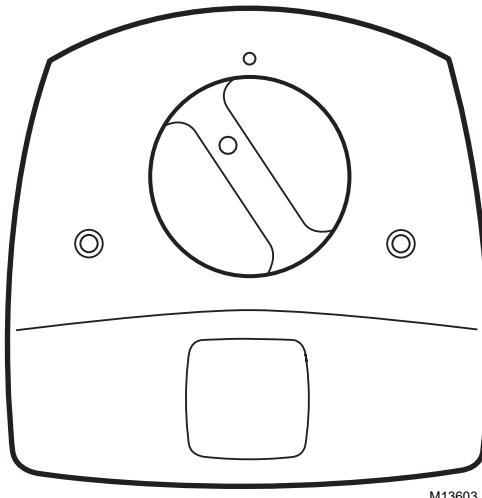

Fig. 16. Position bulb for insertion back into the lamp base.
- Insert the bulb into the base with the lamp light indicator at the eleven o'clock position. Continue pushing and gently rotating counterclockwise until the lamp handle inserts fully into the base. See Fig. 16.
- 8.** Insert the bulb into the base with the lamp light indicator at the eleven o'clock position. Continue pushing and gently rotating counterclockwise until the lamp handle inserts fully into the base. See Fig 16.